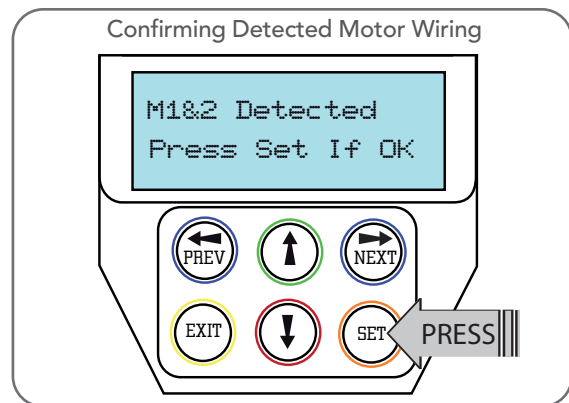

Fig H.3
- DCB-05V2 will now automatically detect if one or two motor are connected. If the correct number is displayed then press SET to confirm. Otherwise press EXIT and check the wiring (**Fig. H.3**).